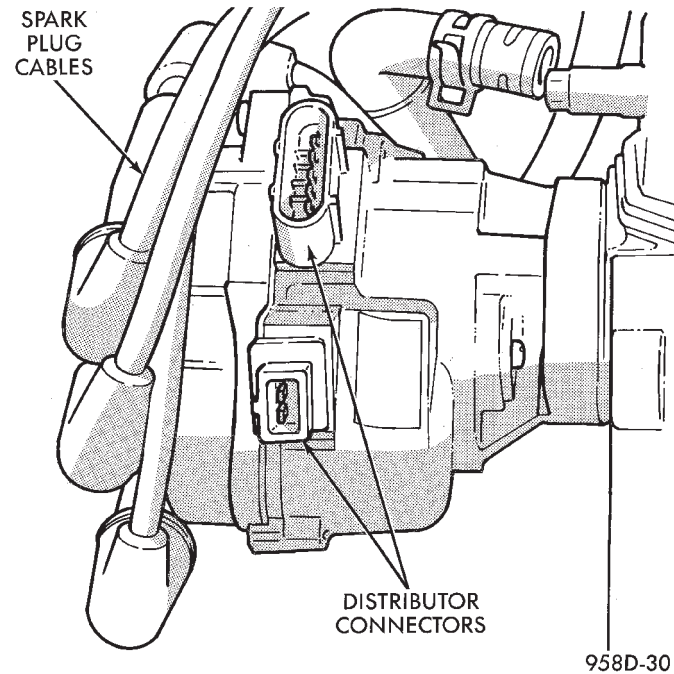

Fig. 49 Distributor Electrical Connectors—Viewed From Rear of Distributor
(9) Mark the rotor position and remove rotor. The mark indicates where to position the rotor when reinstalling the distributor.
(10) Remove 2 harness connectors from distributor (Fig. 49).